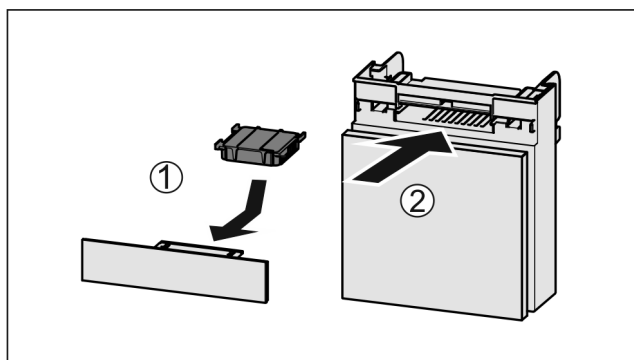

Fig. 119
- Insert the carbon filter as shown in the diagram Fig. 119 (1).
- Push the compartment in Fig. 119 (2).